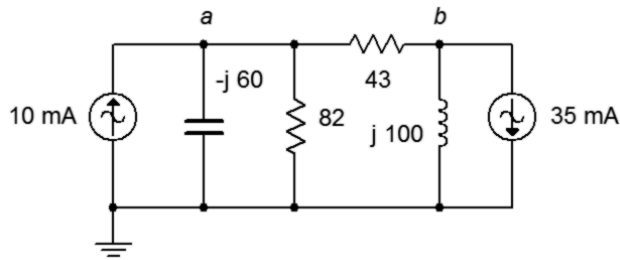

Figure 6.16
31. Use nodal analysis to find the current through the $43\ \Omega$ resistor in the circuit of Figure 6.16. The sources are in phase.
32. Given the circuit in Figure 6.16, use nodal analysis to determine v_b . The sources are in phase.